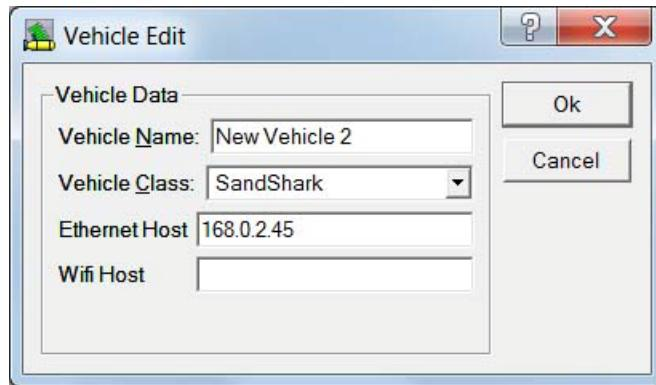

Figure 41: Vehicle Edit Window
2. Click the **Edit** button next to the recent vehicles list. The **Vehicle Edit** window (see Figure 41) opens.